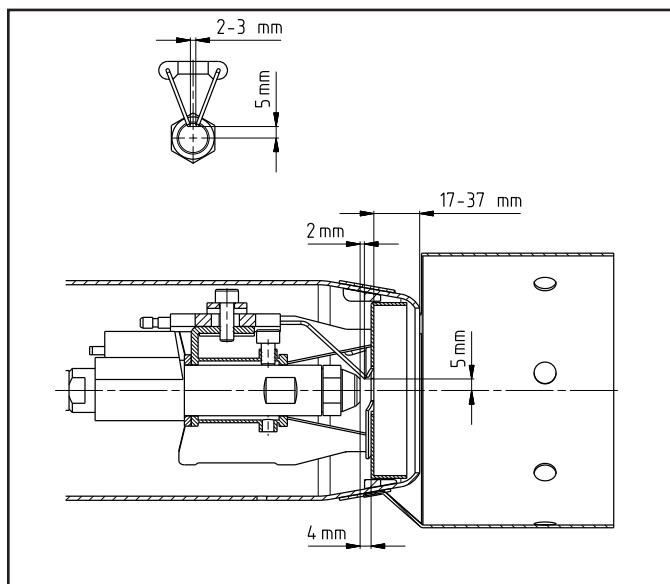

Figure 10
- Check the distance between the baffle plate (1) and the nozzle (3) (see fig. 10).
- Install the baffle plate (1) back in place and tighten the screw (2).
- Control and re-adjust the ignition electrodes if necessary (see fig. 10).